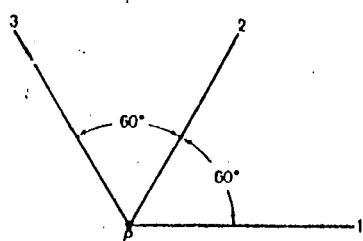

Fig. P4.18
4.18. Repeat Prob. 4.17 for the 60° strain rosette shown in Fig. P4.18.